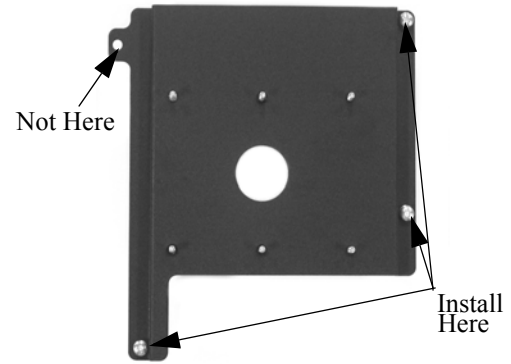

Figure 1. Install Three Screws and Washers
3. Install three M6 X 12mm screws and flat washers loosely into the threaded inserts of the projector (see Figure 1).